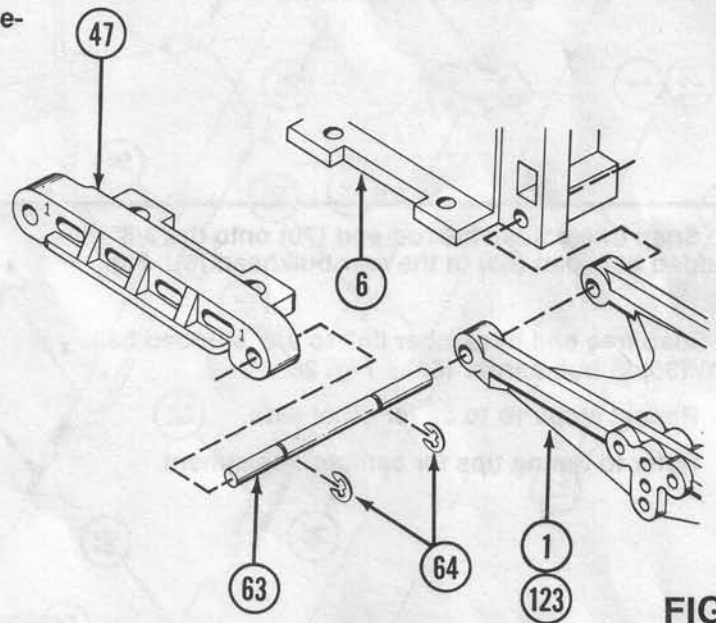

FIG. 23
9. Align the H-arm [(Right (1), Left (123))] as shown between the rear pivot support (47) and rear bulkhead (6). Fig. 23.
10. Insert 1/8" x 1.785 hinge pin (63) through rear pivot support (47) and H-arm (1) (123) until forward E-clip groove is located half way between rails of H-arm (1)(123). Fig. 23.
11. Place 1/8" E-clip (64) in forward groove in pin (63) and push pin through forward rail of H-arm (1) (123) and into bulkhead (6). Fig. 23.
12. Secure H-arm (1) (123) with 1/8" E-clip (64) in rear groove in pin (63). Fig. 23.